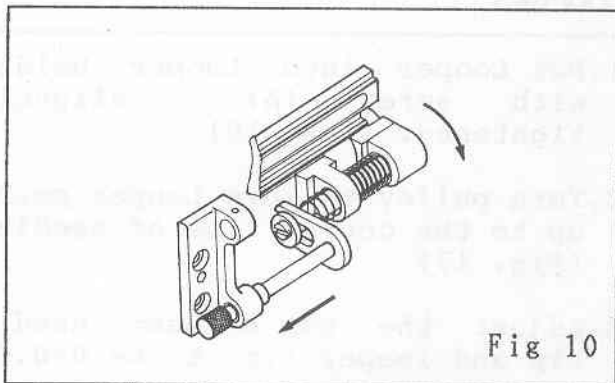

Fig 10
2. For looper threading, pull out the lever of looper set as the arrow direction then thread properly. (Fig. 10)